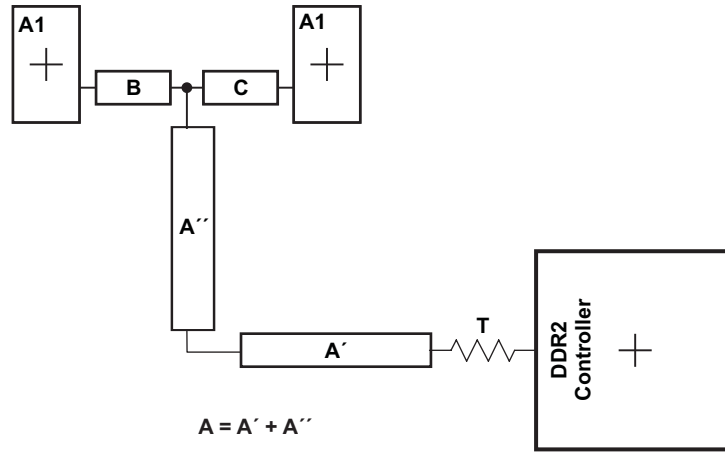

Figure 8-53. CK and ADDR\_CTRL Routing and Topology
Figure 8-53 shows the topology of the routing for the CK and ADDR\_CTRL net classes. The route is a balanced T as it is intended that the length of segments B and C be equal. In addition, the length of A (A'+A'') should be maximized.
- (1) The length of segment A=A'+A'' as shown in Figure 8-53.
- (2) Center-to-center spacing is allowed to fall to minimum (w) for up to 500 mils of routed length to accommodate BGA escape and routing congestion.
- (3) CACLM is the longest Manhattan distance of the CK and ADDR\_CTRL net classes.